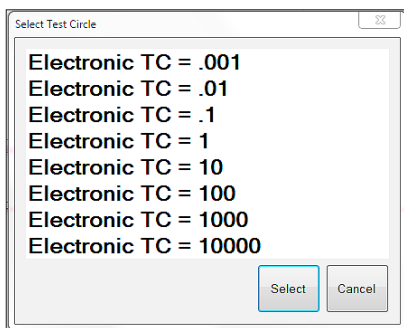
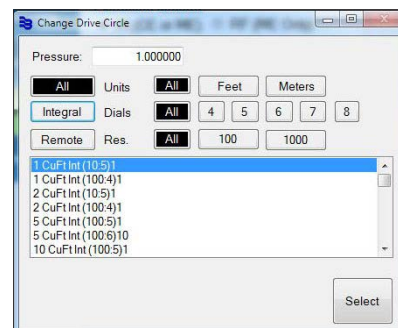

Figure 54: Water - Test Circle selection
Figure 55: Gas - Drive Circle selection
4. On the window that displays, select the appropriate meter size and unit of measure. For water endpoints, the Test Circle window will display. For gas endpoints, the Drive Circle window will display. An example of both windows is shown (Figure 54, Figure 55).